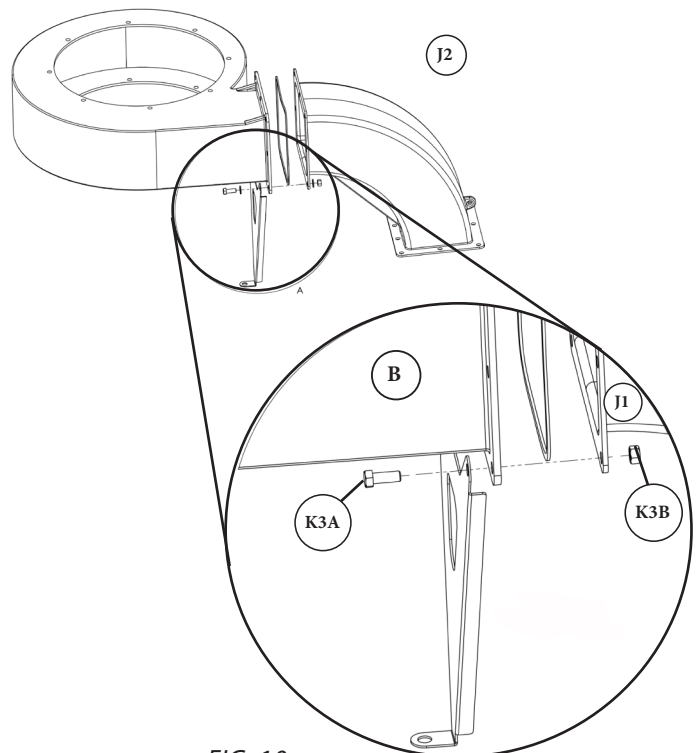

FIG. 10
Attach the flat top of the Support Brace (L) to the lower corners of the Filter Plenum Elbow (J1) with two Hex Head Bolts (K3A) and two Whiz-Lock Nuts (K3B) [FIG. 10].